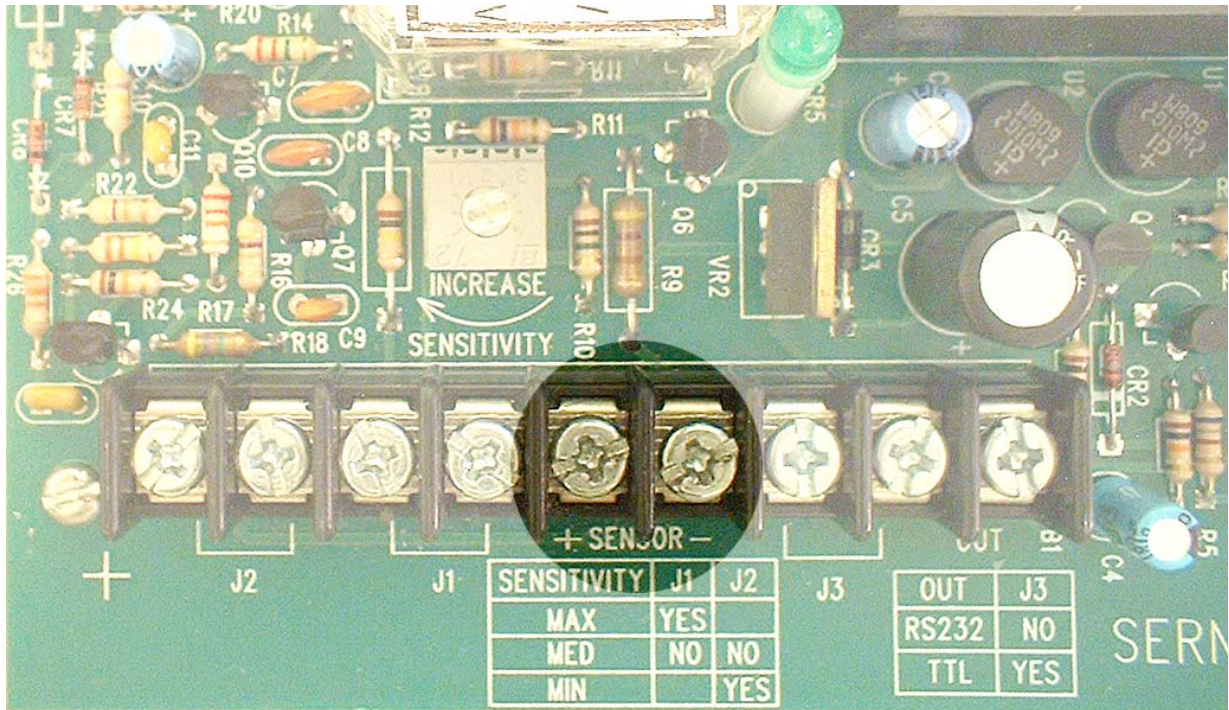

Figure 3
**LOW VOLTAGE INPUTS** (See Fig. 3)
- The sensor cable pigtail should be a minimum of **18 AWG**, two (2) conductor stranded copper wire. Use 18 AWG for up to 500’ (155m) and 16 GA up to 2000’ (620m)